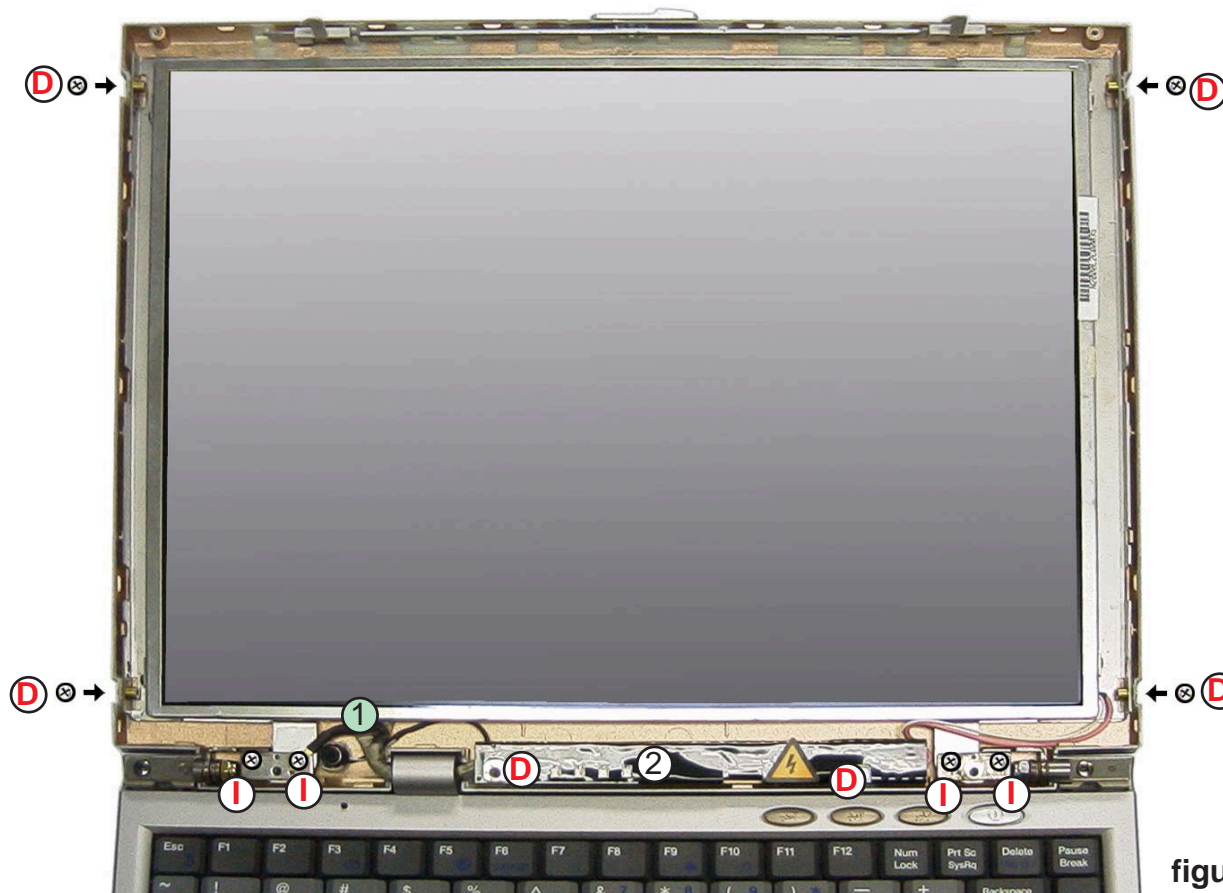

figure 2-22
1. Remove the bracket screws (D) on the side of the LCD panel (figure 2-22).
2. Remove the 4 screws (I) at the bottom of the LCD screen (figure 2-22).
3. Remove screws (D) securing the inverter board (figure 2-22).